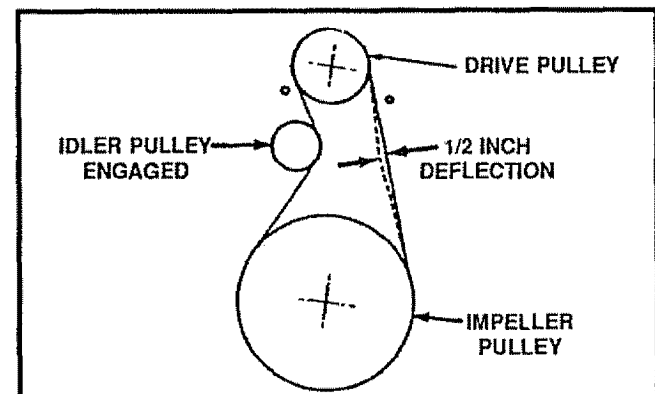

FIG. 24
- Loosen the nut on the idler pulley (See Fig. 24) and move the pulley toward the belt about 1/8".
- Press the auger drive lever. Check the tension on the belt (opposite idler pulley). The belt should deflect about 1/2" with moderate pressure (See Fig. 24).